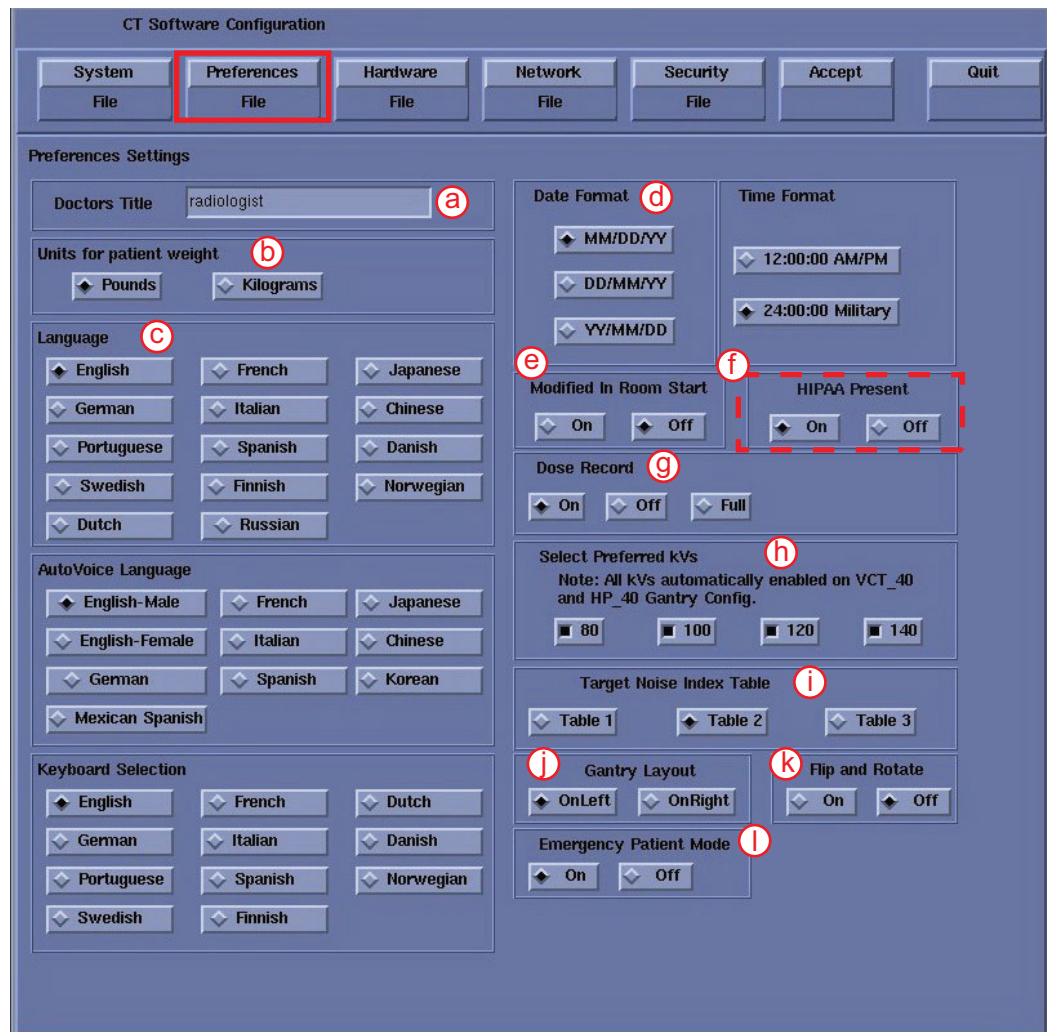

Figure 5-14 Preferences Setup Screen
- 6.) Select the PREFERENCES button to display the Preference Settings Screen as shown in Figure 5-14.